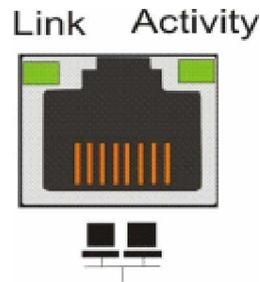

Figure 3-3: Ethernet Port LED
A shielded Ethernet cable should be used to connect the RJ-45 Ethernet port to a hub on a network after you assign a permanent IP to the X48 controller head. This enables you to manage your controller head via the network. Two (2) LEDs located on the Ethernet port indicate the Ethernet connection status. See **Figure 3-3** for the locations of the two (2) LED indicators. Refer to **Table 3-4** for the LED definitions.